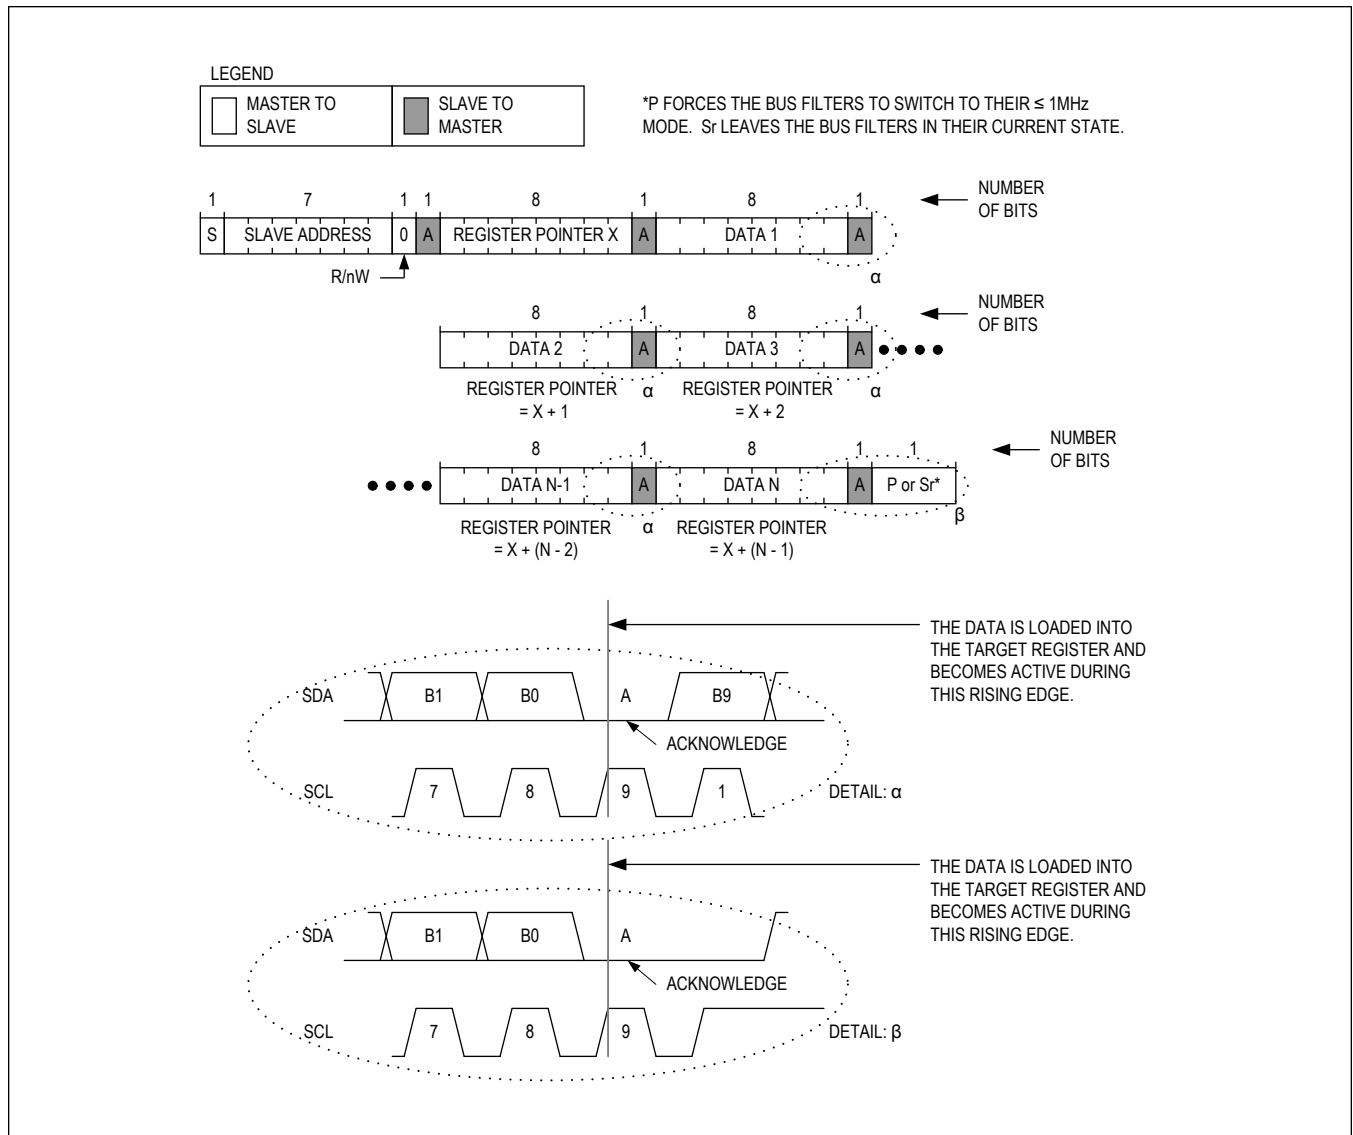

Figure 12. Writing to Sequential Registers
Figure 12 shows the protocol for writing to sequential registers. This protocol is similar to the “Write Byte” protocol, except the master device continues to write after the slave device receives the first byte of data. When the master is done writing data, it issues a STOP condition (P) or REPEATED START condition (Sr).